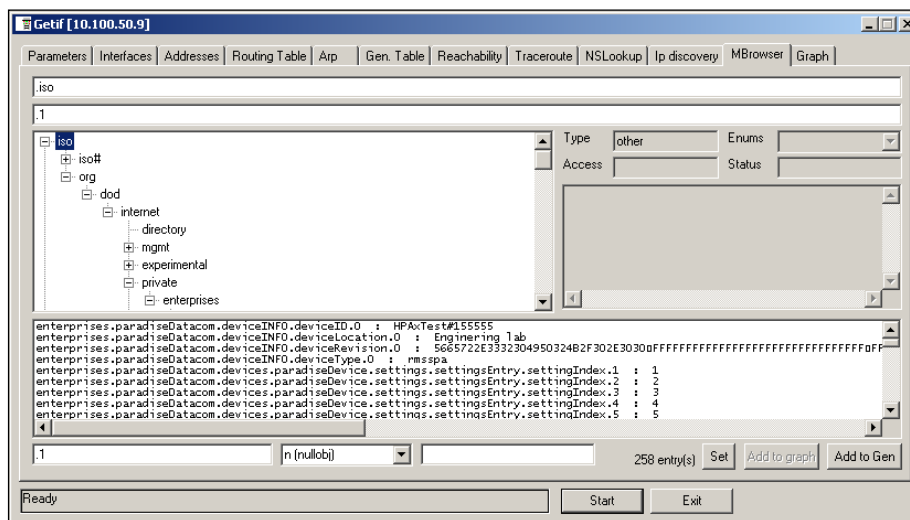

Figure 5-13: Getif MBrowser Window, with Update Data in Output Data Box
6. See update data in output data box (**Figure 5-13**).